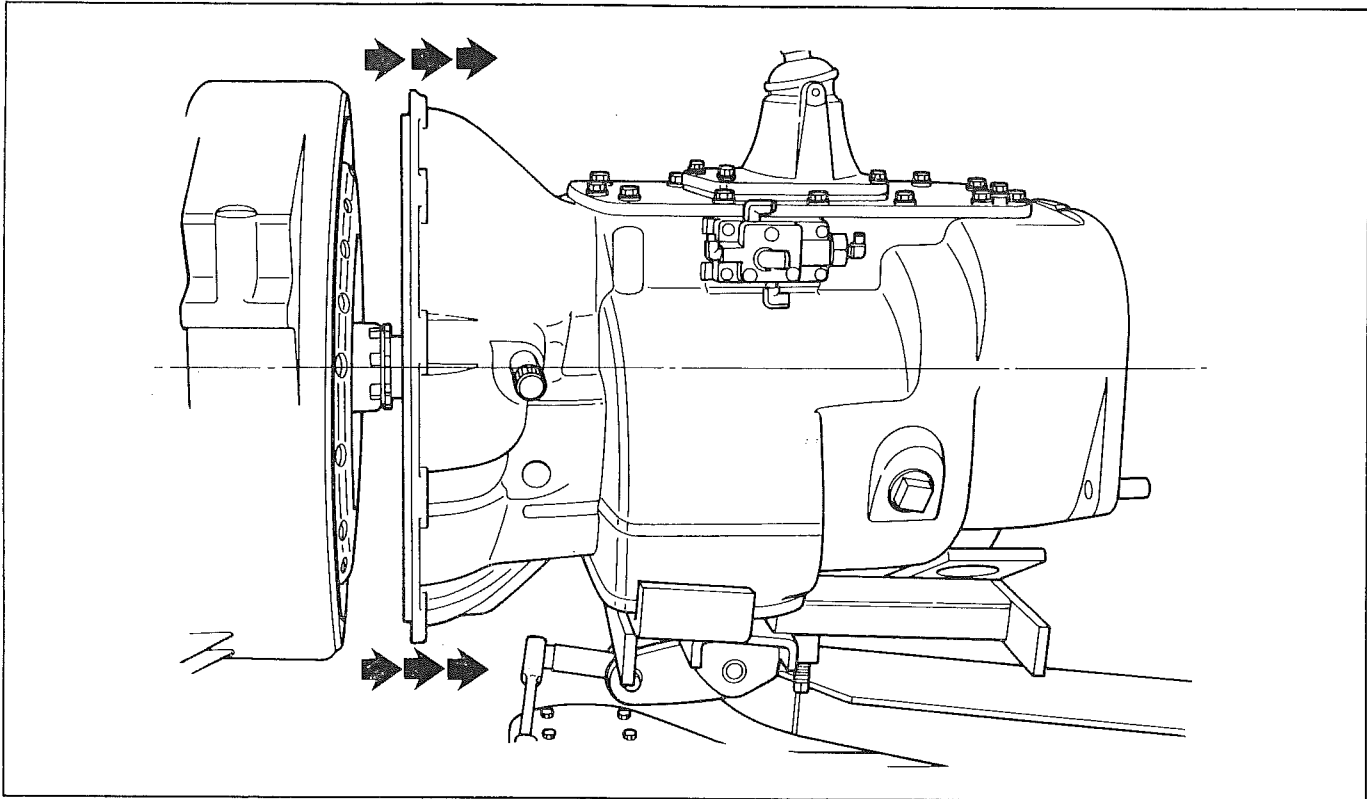

Figure 7-1. Pulling Transmission Away From Engine
10. Remove the capscrews and washers that attach the clutch housing to the engine. Pull the transmission straight back from the engine until it has cleared the Pressure Plate and Cover Assembly (PPCA) (Fig. 7-1). Remove the transmission from the vehicle.